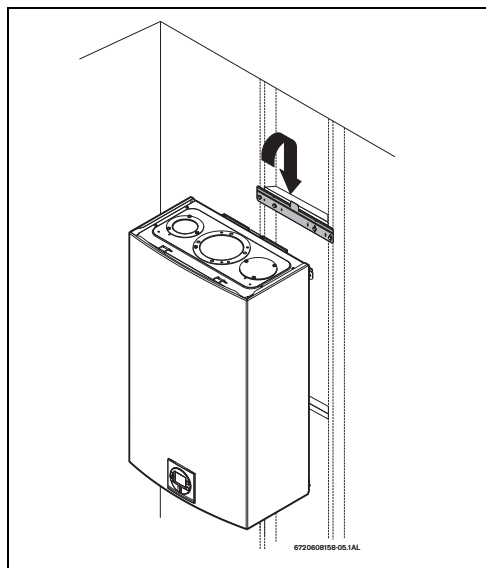

Fig. 29 Mounting the heater
- ▶ Hang the appliance on the bracket, see fig. 29, page 37.